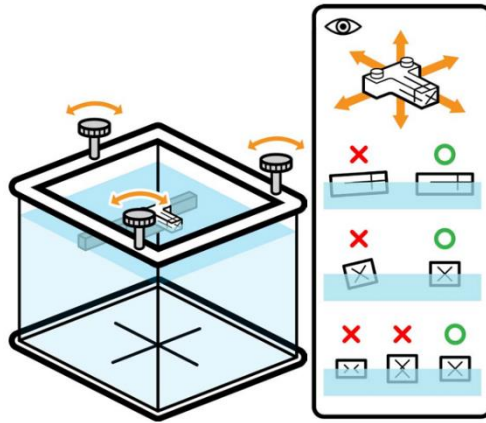

Figure 8-17: Fine alignment of scan arms
14. Fine Leveling of scan arms (see also section 11 of this manual and Figure 8-17 below):